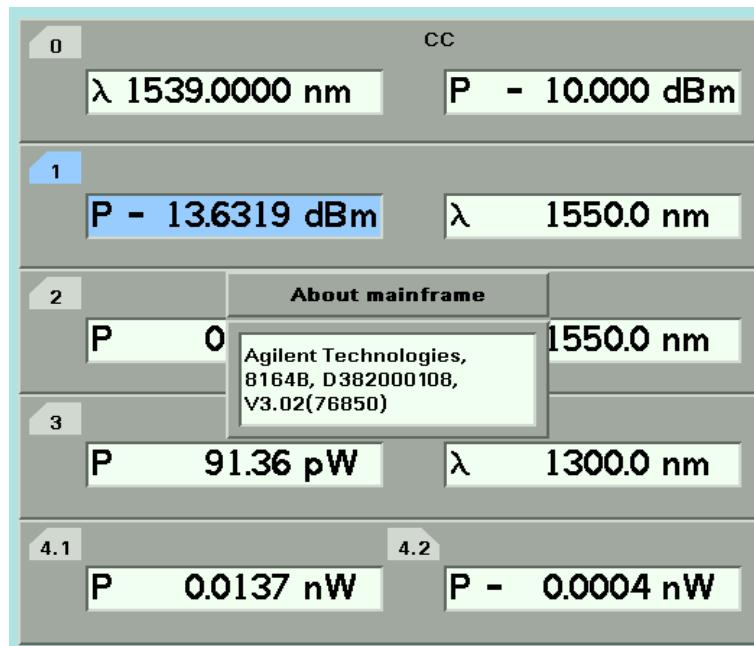

Figure 39 Viewing Information About the Mainframe
- 2 Move to the <*About Mainframe*> menu option and press *Enter*. You see a box displaying information about your mainframe, see Figure 39 . The manufacturer, part number, serial number, and firmware revision of the mainframe are listed.